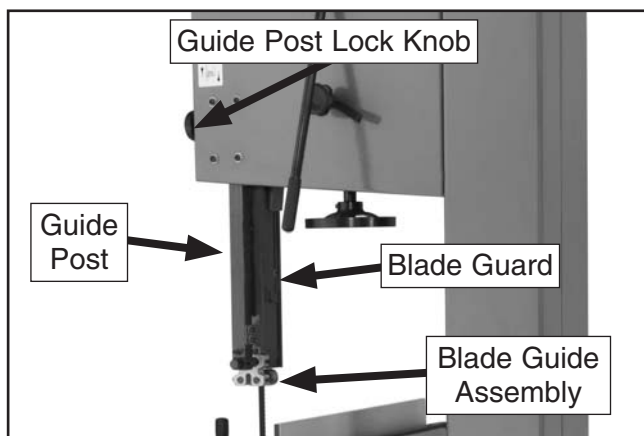

Figure 50. Guide post controls.
The motorized guide post (see **Figure 50**) moves the blade guide assembly up or down. To cut accurately and safely, the bottom of the blade guide assembly must be no more than 1" above the workpiece during cutting operations—this positioning provides the greatest blade support and minimizes the length of moving blade that is exposed to the operator.
3. Loosen the guide post lock knob shown in **Figure 50**.